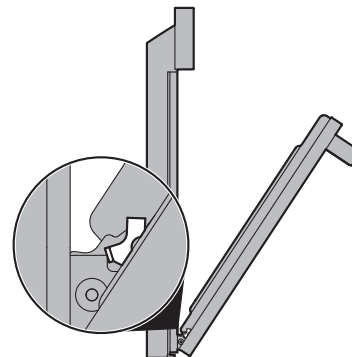

Figure 21: Removal position
3. Grasp the door by the sides, and close the door until the door frame makes contact with the unlocked hinges (Figure 21).
2. Hold the oven door at the same angle as the removal position (Figure 21). Carefully insert the hinge levers into the oven frame until you feel the hinge levers are seated into the hinge notches. The hinge arms must be fully seated into the hinge notches before the oven door can be fully opened.